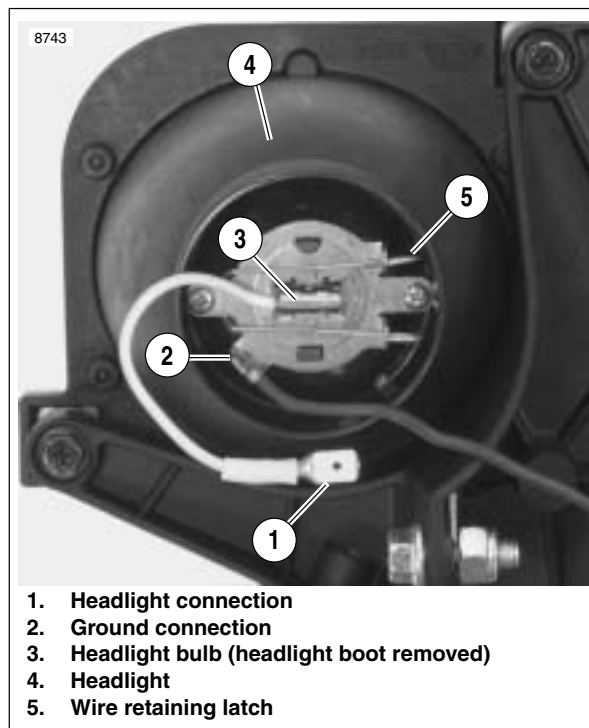

Figure 7-48. Headlight Bulb
2. See Figure 7-48. Disconnect headlight connection (1).
4. Release wire retaining latch (5) from headlight housing clips.
1. See Figure 7-48. Align tabs on bulb (3) with tabs on headlight (4). Insert bulb.
2. Close the wire retaining latch (5).